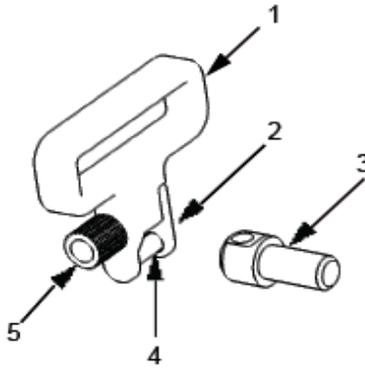

Figure 3. Quick Release Swivel Assembly.
5. Screw the thumb screw (Figure 3, Item 5) clockwise (CW) down to retain sling swivel (Figure 3, Item 1) in place.